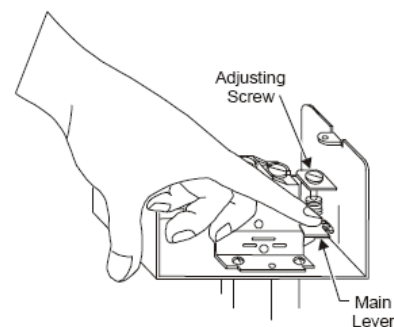

Figure 7 Minimum Adjustment
3. Check to see that the flow switch is not set lower than factory setting by depressing the main lever numerous times. If the lever fails to "click" upon return at any time, turn the adjusting screw clockwise until the lever clicks upon return every time. See Figure 7.